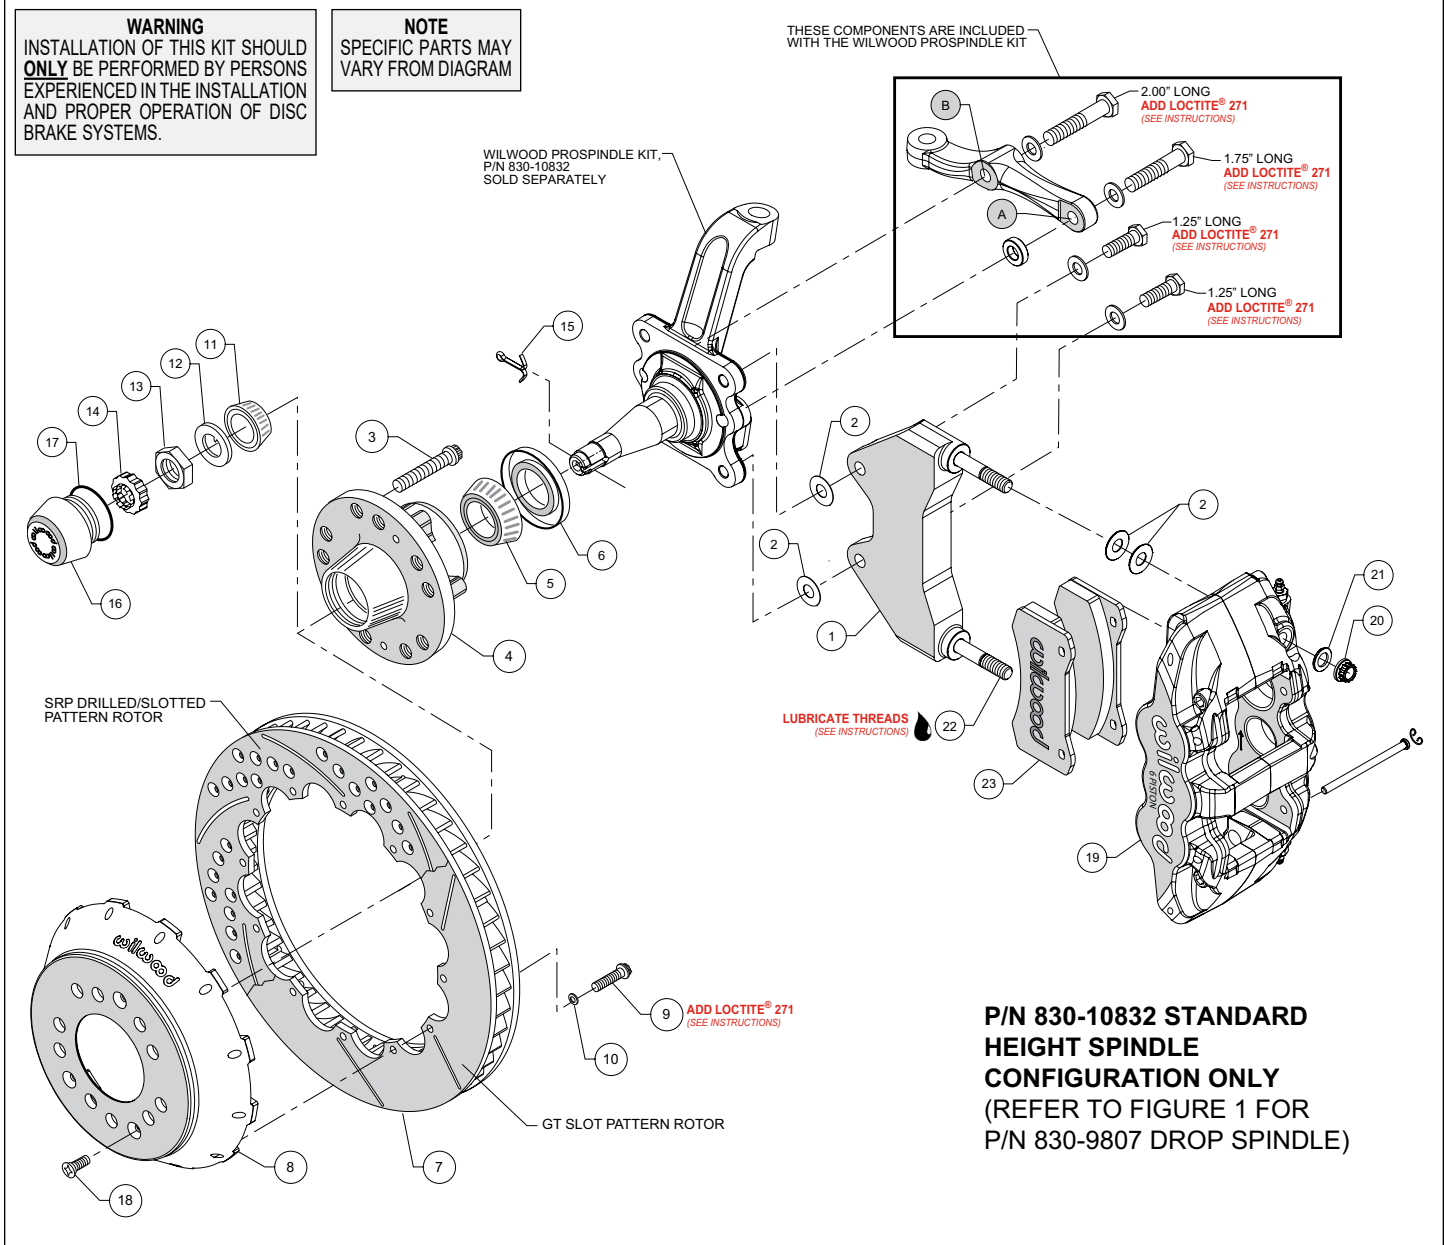

Figure 2. Installation Configuration For Standard Height Spindle, P/N 830-10832
- Orient the bracket as shown in Figure 2 and Photo 2. Install using 1.25" long bolts and .06" thick washers (from ProSpindle kit), and one .030" thick shim (2) on each bolt between the bracket and spindle, Figure 2. Temporarily tighten mounting bolts. **NOTE:** *The bracket must fit squarely against the mounting points on the spindle.* Inspect for interference from casting irregularities, machining ridges, burrs, etc. Later, after the caliper alignment has been checked, the mount bolts will be secured using red Loctite® 271.
- Orient the steering arm, and identify the hole marked 'A', as shown in Figure 2. Install using 1.75" long bolt, .06" thick washer, and .30" thick spacer (all from ProSpindle kit), Figure 2.
- Finish attaching the steering arm through the hole marked 'B', as shown in Figure 2. Install using 2.00" long bolt and .06" thick washer (from ProSpindle kit), Figure 2.